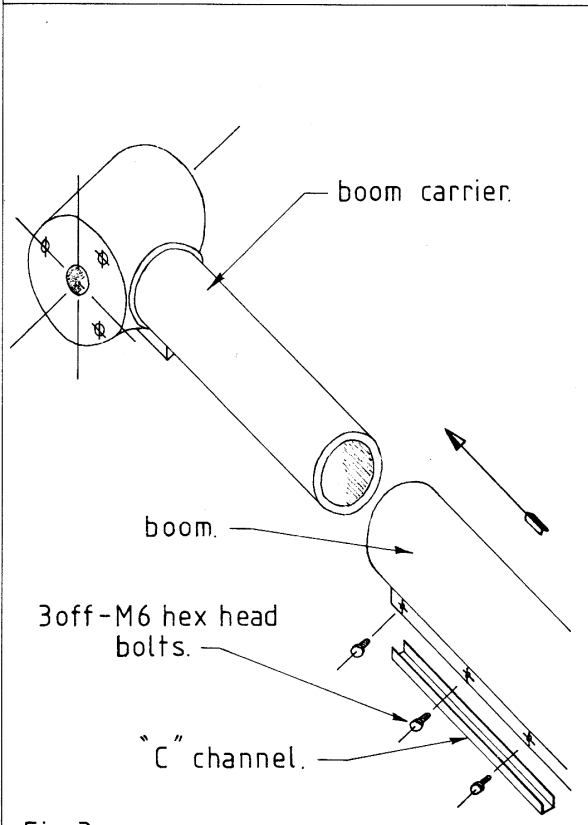

Fig. 3.
6. Remove the 3 x M6 hexagonal fasteners from the arm and pull away 'C' channel section. (Fig 3.)
7. Slide arm onto arm carrier, making sure that under-leg sections align with corresponding section on arm carrier casting. Push fit 'C' channel and secure arm in position using the 3 x M6 bolt sets. Insert locking screw to prevent radial movement. (Fig 3.)